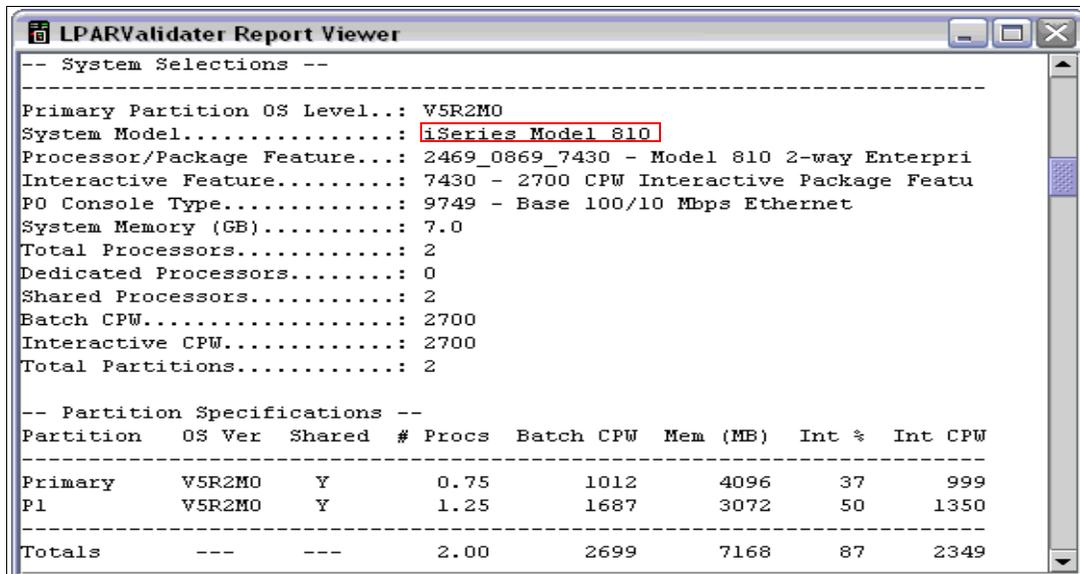

Figure 9-9 LVT report — current system first scenario page 1
- g. The following images contain relevant portions of the **Detail** reports for the existing 810 and 825 in these scenarios (see Figure 9-9 here through Figure 9-16 on page 267).